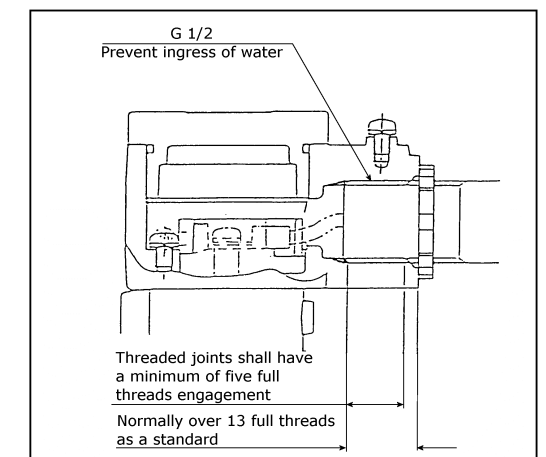
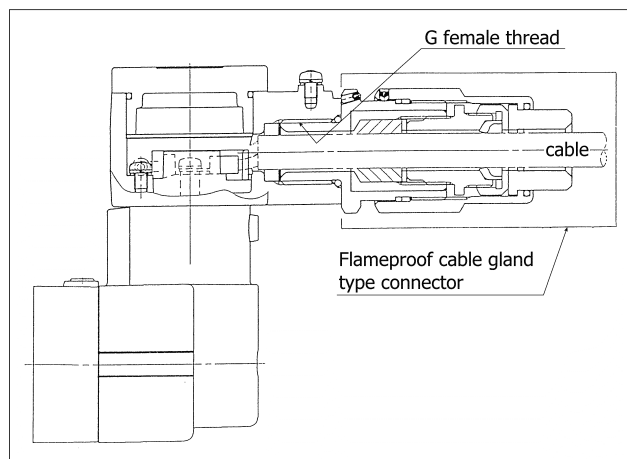

Figure 19
Figure 21
- Cable entry must be made using metal conduit or cable gland, see Figure 19 and Figure 21.